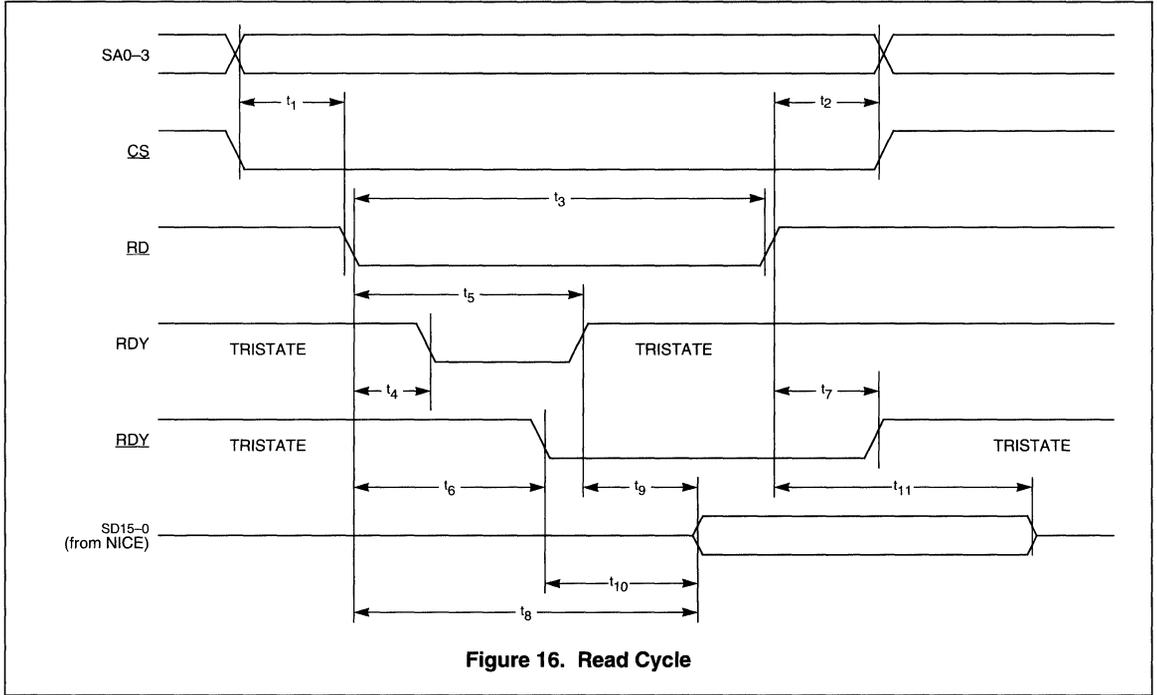
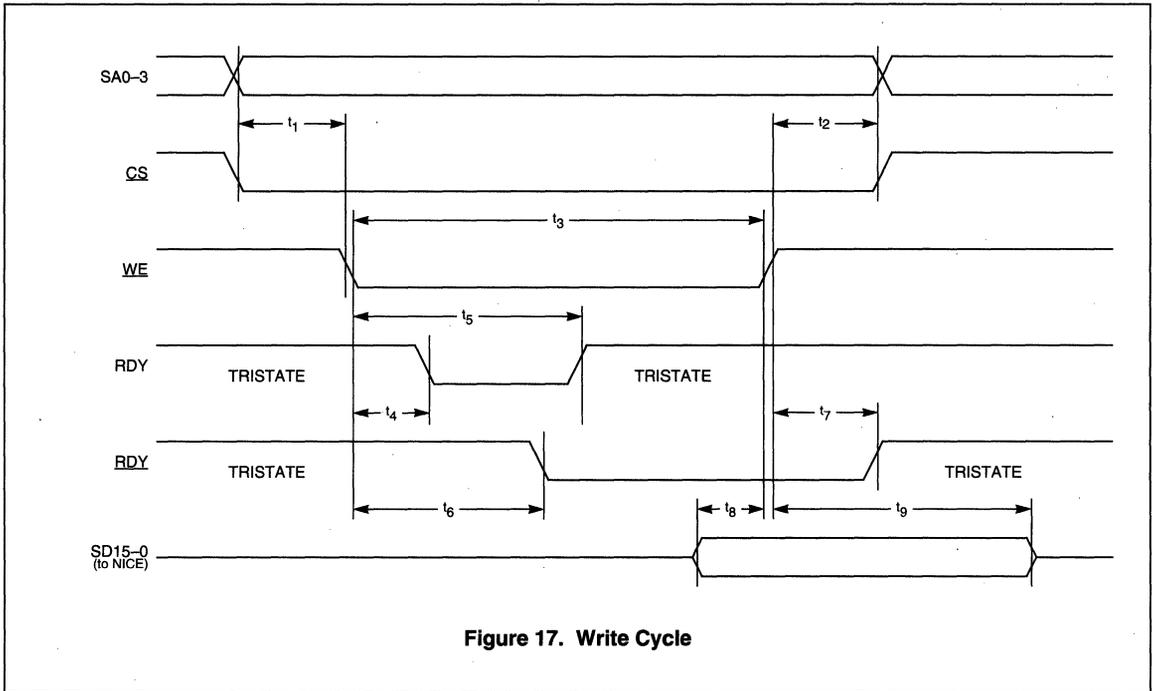

Figure 16. Read Cycle
Figure 17. Write Cycle
3. For RDY(RDY) timing and SD15-0 timing, see Figure 16, t_4 - t_{11} , and Figure 17, t_4 - t_9 .
3. For RDY(RDY) timing and SD15-0 timing, see Figure 16, t₄-t₁₁, and Figure 17, t₄-t₉.